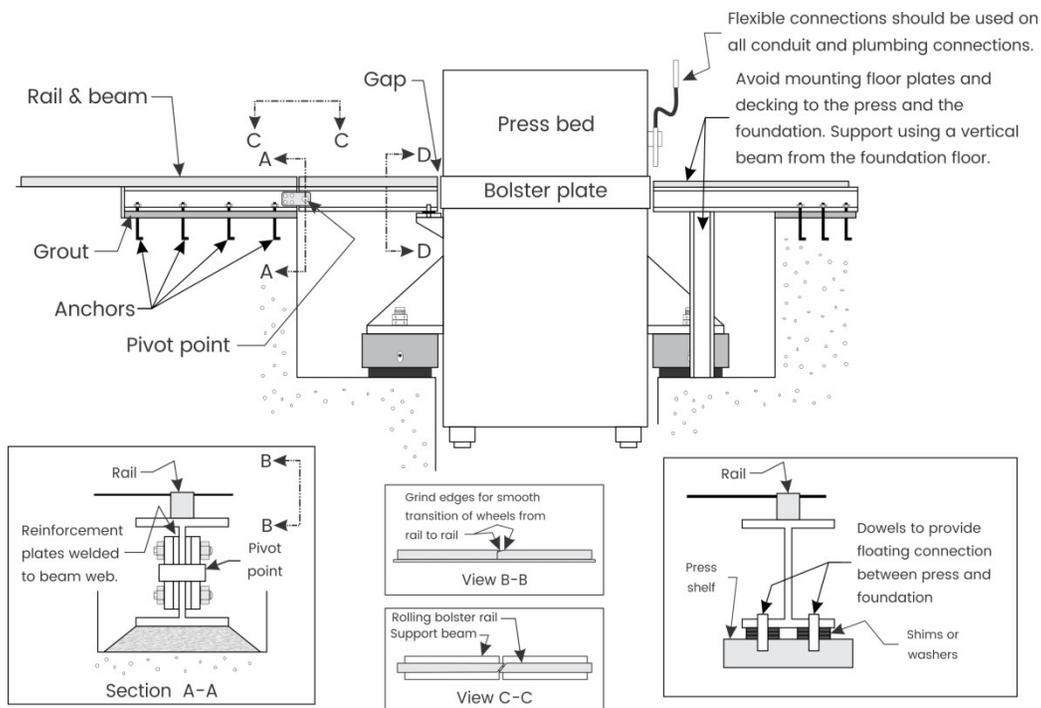

FIGURE 5
- There should not be any solid connections between the machine and the foundation or building structure. Flexible connections are recommended for all plumbing and electrical conduit. Floor plates, walkways, railings, feeds, rolling bolster rails, etc. should *not* be attached to *both* the machine and the floor, foundation or building (See Figure 5). Hard connections will “short-circuit” isolation effectiveness.